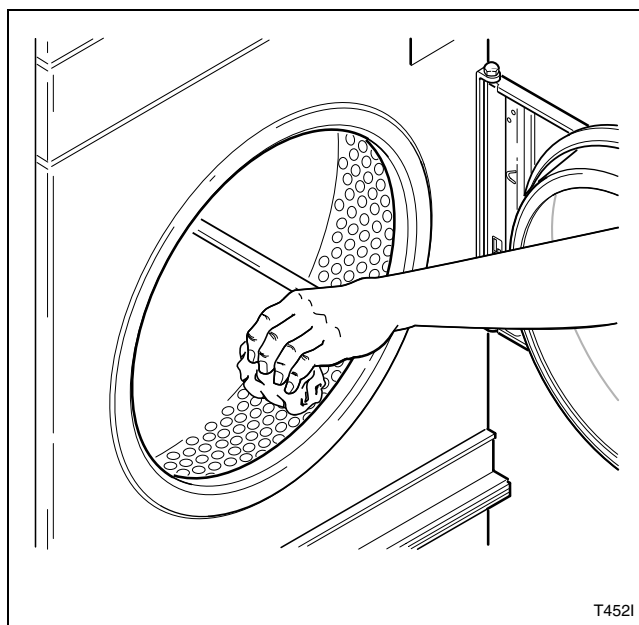

Figure 5
8. Wipe out the cylinder using an all-purpose cleaner or detergent and water solution. Refer to **Figure 5**.